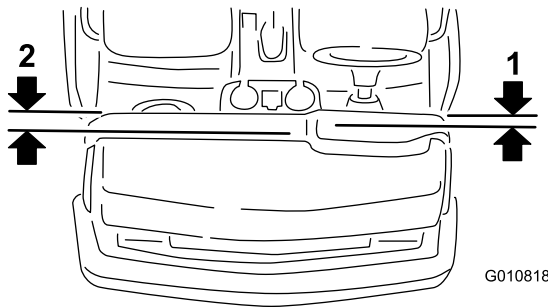

Figure 2
1. To install a mirror on the left side of the machine (driver's side), measure 4.45 cm (1-3/4 inches) out from the edge of the dash panel, and draw a parallel line to the edge (Figure 2).
To install a mirror on the right side of the machine (passenger's side), measure 5.56 cm (2-3/16 inches) out from the edge of the dash panel, and draw a parallel line to the edge (Figure 2).